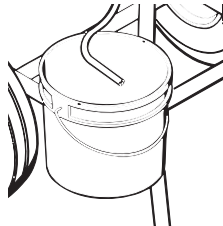

Figure 3. Place return hose so purged fluid goes into waste container.
2. Place return hose over waste container. (See Figure 3.) Attach paint hose without tip and put into waste container.